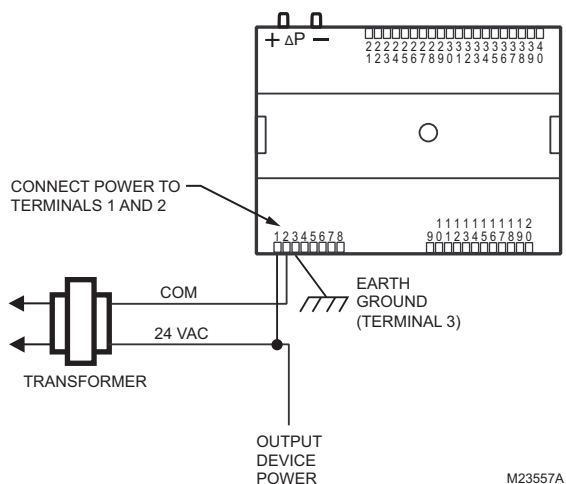
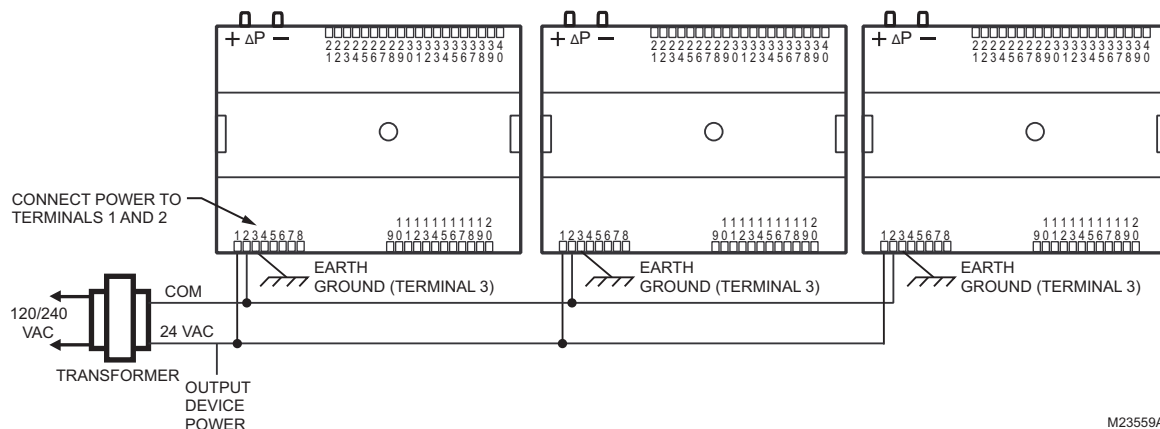

Fig. 11. Power wiring details for one controller per transformer.
Fig. 13. Power wiring details for two or more controllers per transformer.
- When multiple controllers operate from a single transformer, connect the same side of the transformer secondary to the same power input terminal in each device. The earth ground terminal (terminal 3) must be connected to a verified earth ground for each controller in the group (see Fig. 13 on page 10).
See Fig. 11–Fig. 13 beginning on page 10 for illustrations of controller power wiring. See Table 4 for VA ratings of various devices.
- For multiple controllers operating from a single transformer, the same side of the transformer secondary must be connected to the same power input terminal in each device. The earth ground terminal must be connected to a verified earth ground for each controller in the group (see Fig. 13 on page 10). Controller configurations are not necessarily limited to three devices, but the total power draw, including accessories, cannot exceed 100 VA when powered by the same transformer (U.S. only).
- Keep the earth ground connection wire run as short as possible (refer to Fig. 11–Fig. 13 beginning on page 10).
- Do not connect earth ground to the controller's digital or analog ground terminals (refer to Fig. 11 and Fig. 13).
- For multiple controllers operating from a single transformer, the same side of the transformer secondary must be connected to the same power input terminal in each controller. Controller configurations will not necessarily be limited to three devices, but the total power draw, including accessories, cannot exceed 100 VA when powered by the same transformer (U.S. only). For power and wiring recommendations, See "Power" on page 7. The earth ground terminal (terminal 3) must be connected to a verified earth ground for each controller in the group (see Fig. 13 on page 10).
Fig. 11 depicts a single controller using one transformer.
More than one controller can be powered by a single transformer. Fig. 13 shows power wiring details for multiple controllers.